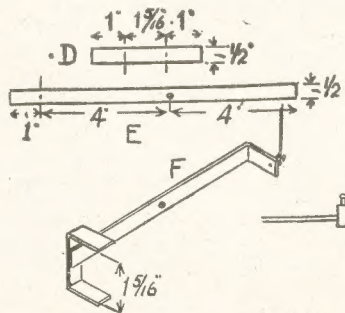

Fig. 2—Details of metal rocker
A rocker (C) is now required; this is set in motion by the rotary windvane and actuates the figure's arm. The rocker is composed of two pieces of stout brass rod, $\frac{1}{2}$ in. wide, illustrated at (D) and (E) in Fig. 2. Cut these to length. Bend (D) across the dotted lines to make the shape shown at (F). Part (E) has also the short piece at the